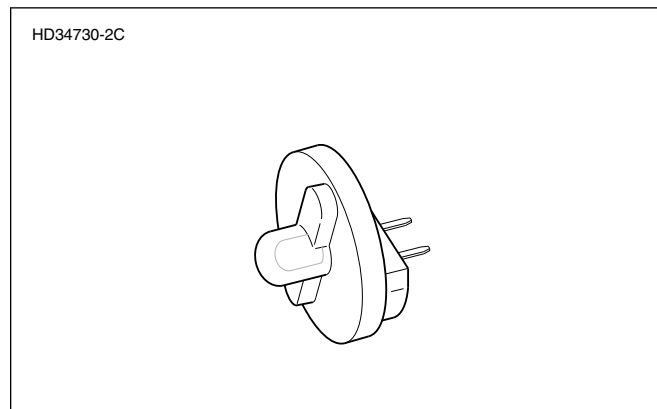

Figure 4-68. Fuel Injector Test Lamp (Part No. HD-34730-2C)
2. Use HARNESS CONNECTOR TEST KIT (Part No. HD-41404), purple terminal probes and patch cord to BREAKOUT BOX and gray socket probes and patch cord to FUEL INJECTOR TEST LAMP (Part No. HD-34730-2C). See Figure 4-68.